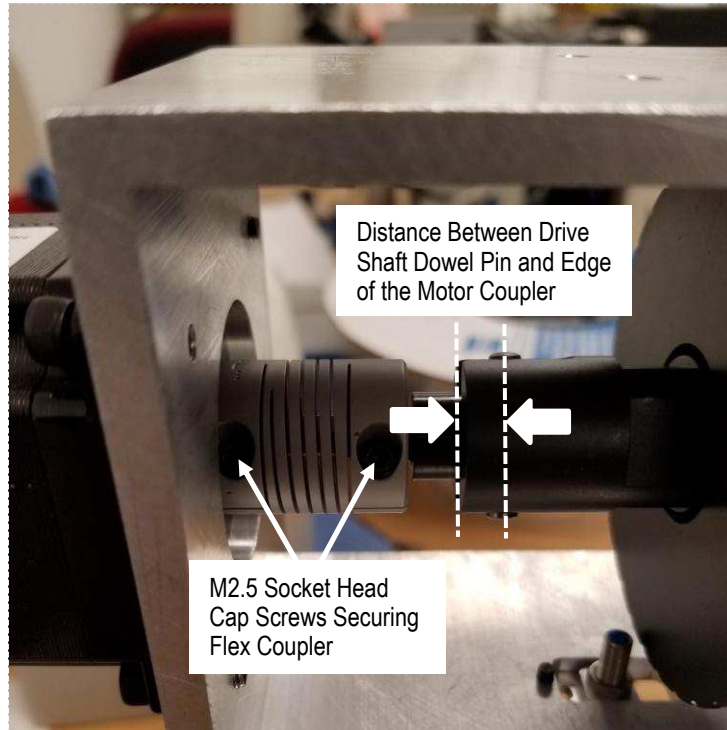

Figure 2
**IMPORTANT:** Determine the distance between the drive shaft dowel pin and the edge of the motor coupler (see Figure 2). This positioning must be re-established during Step 9.